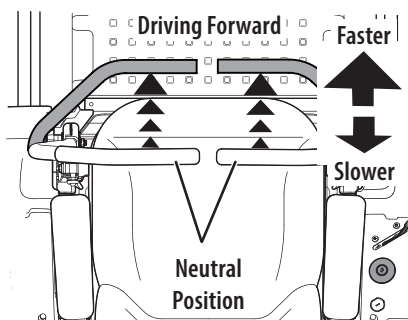

Figure 26
- Slowly and evenly move both drive control levers forward. The mower will start to move forward (Figure 26).